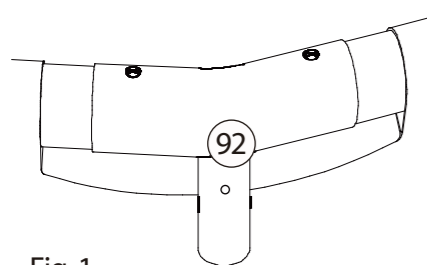

Fig. 1
- (f) Locate the metal pipe and tee fittings for the frame section of the pool. The shorter pipe sections with the larger diameter and the pair of holes at both ends are the horizontal beams (91). The longer pipe sections with the smaller diameter and the spring pin (95) at one end are the vertical legs (94). Take the horizontal beams (91) and insert them into the pockets stitched along the top edge of the pool wall. Rotate it in the pocket so that the holes are on the top and bottom of the pipe protruding from each end of the pockets. Take one end of the pipe and insert it into a tee fitting aligning the holes with the holes in the horizontal beam. Do not install any of the pins (93) at this time. Continue around the pool in either direction installing all of the tee fittings onto the horizontal beams. See Fig. 1.